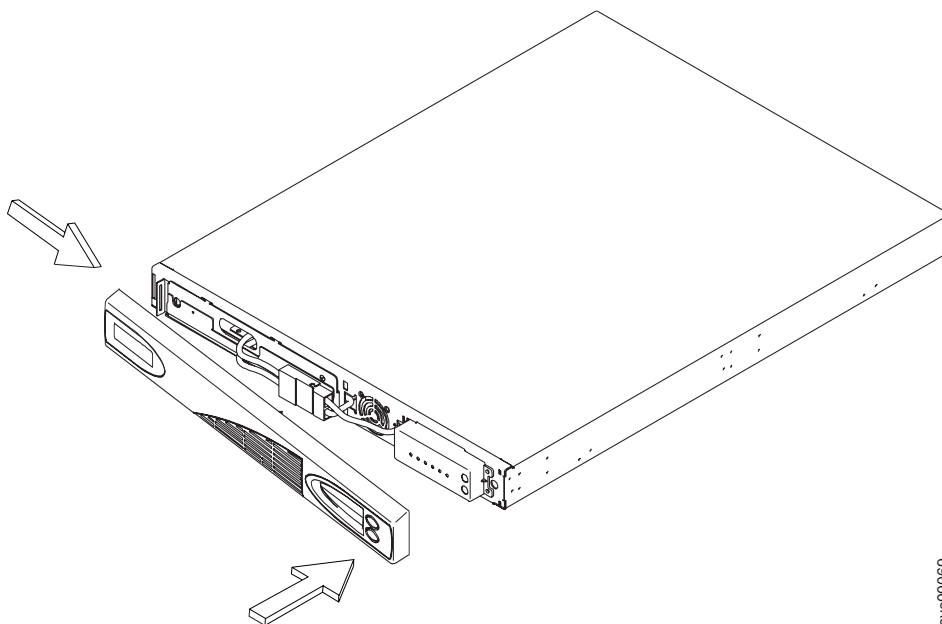

Figure 159. Replacing the 2145 UPS-1U front panel
4. Push the front panel to the right to catch on the left end of the panel. Push the front panel forward until the panel snaps into the right and middle sections of the 2145 UPS-1U. See Figure 159.